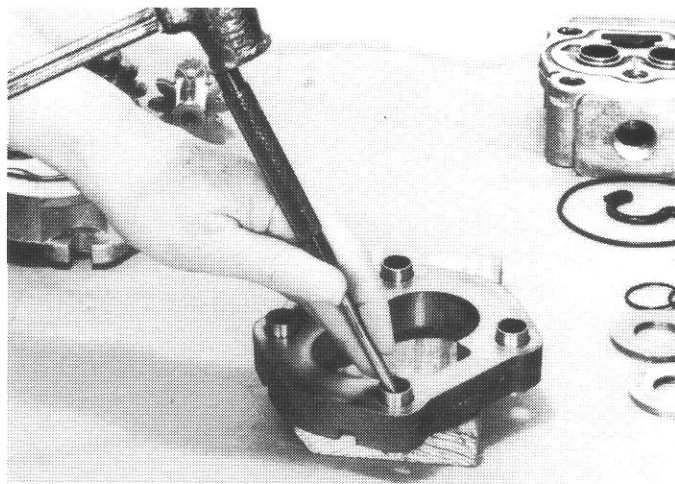

Fig. 11
11. Dowels (9) are pressed into gear plate. There are four dowels on each side and unless gear plate is replaced it is not necessary to remove them. To remove the dowels use a rod or punch and hammer to drive them out. Place driver inside of dowel and against end of dowel on opposite side and tap it out. (Fig. 11)